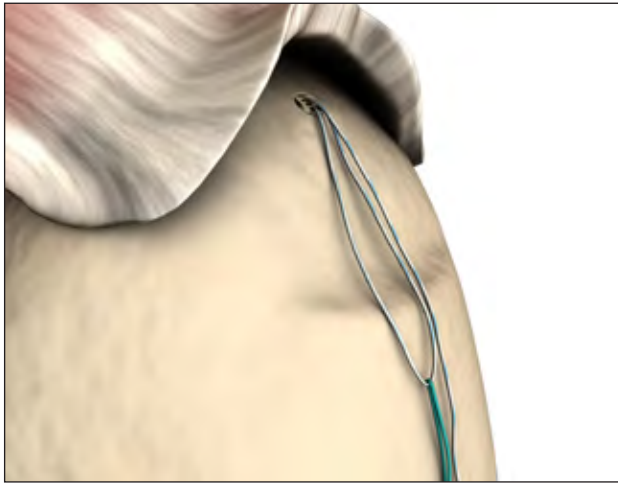

Figure 14
3. Remove the spacer tab on the inserter and pull back the outer inserter shaft. With downward pressure, screw the anchor into the hole until it is 1 mm below the bone surface (Figure 14). Remove the knob and inserter from the device and discard.